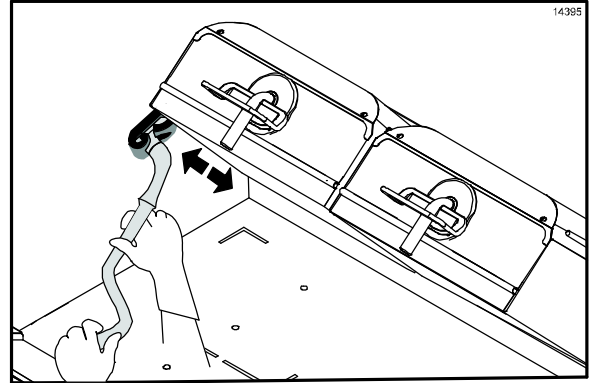

Figure 55
26. Scrub the outer edges of the right and left platens. (See Figure 55.)